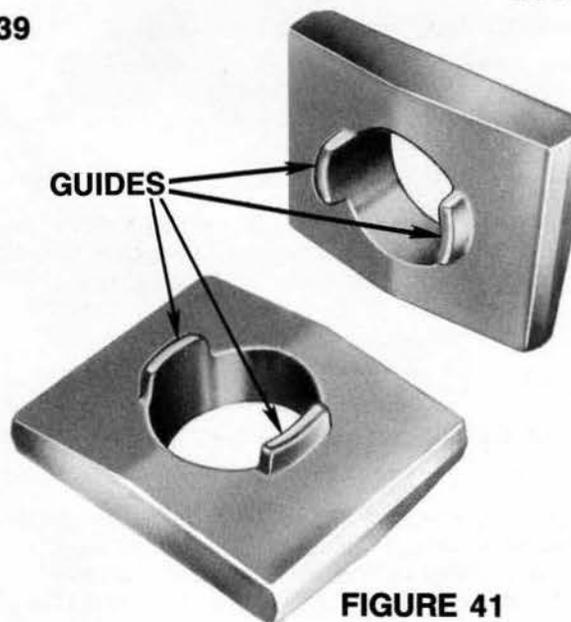

FIGURE 41
- b. Insert gimbal washer, with guides ON TOP, into track clamp and lower these as a unit down over hanger rod until gimbal washer rests on fixed lower rod nut. Refer to Figure 41.
- a. Drop gimbal washer, with guides ON TOP, down over hanger rod until gimbal washer rests on fixed lower rod nut. Refer to Figure 41.
- b. Drop gimbal washer, with guides ON BOTTOM, down over hanger rod until gimbal washer rests on beam cleat. Refer to Figure 41.
- c. Drop gimbal washer, with guides ON BOTTOM, down over hanger rod until gimbal washer rests on beam clamp. Refer to Figure 41.